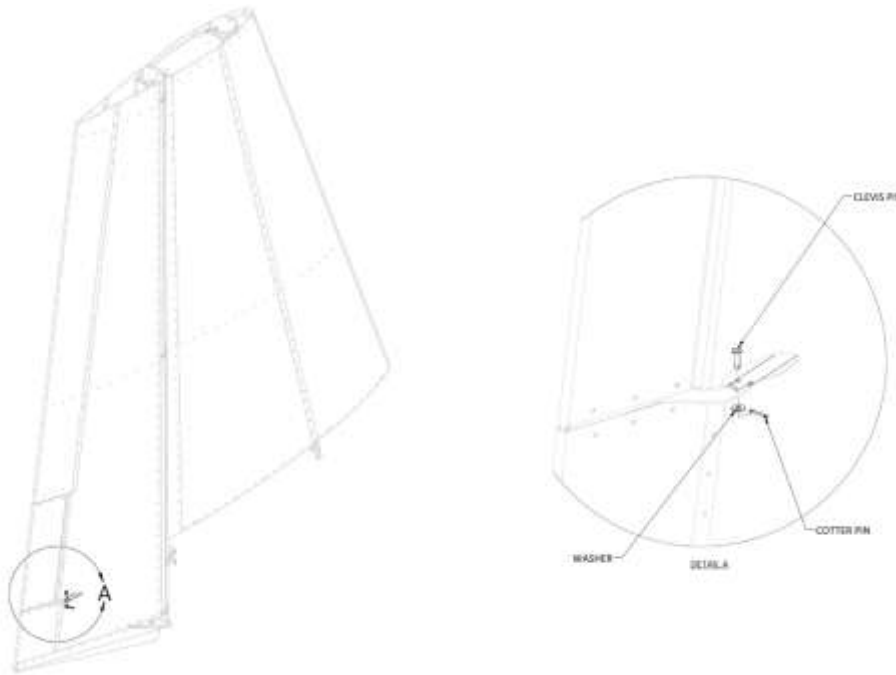

Figure 5.7.6.12 Rudder AST Adjustment
- (b) Trim adjustment is achieved by shortening or lengthening the anti-servo tab (AST) pushrod. If the pilot applied the right rudder to center the slip/skid ball the pushrod must be lengthened. If the pilot applied the left rudder to center the slip/skid ball the pushrod must be shortened. See Figure 5.7.6.12 for reference.